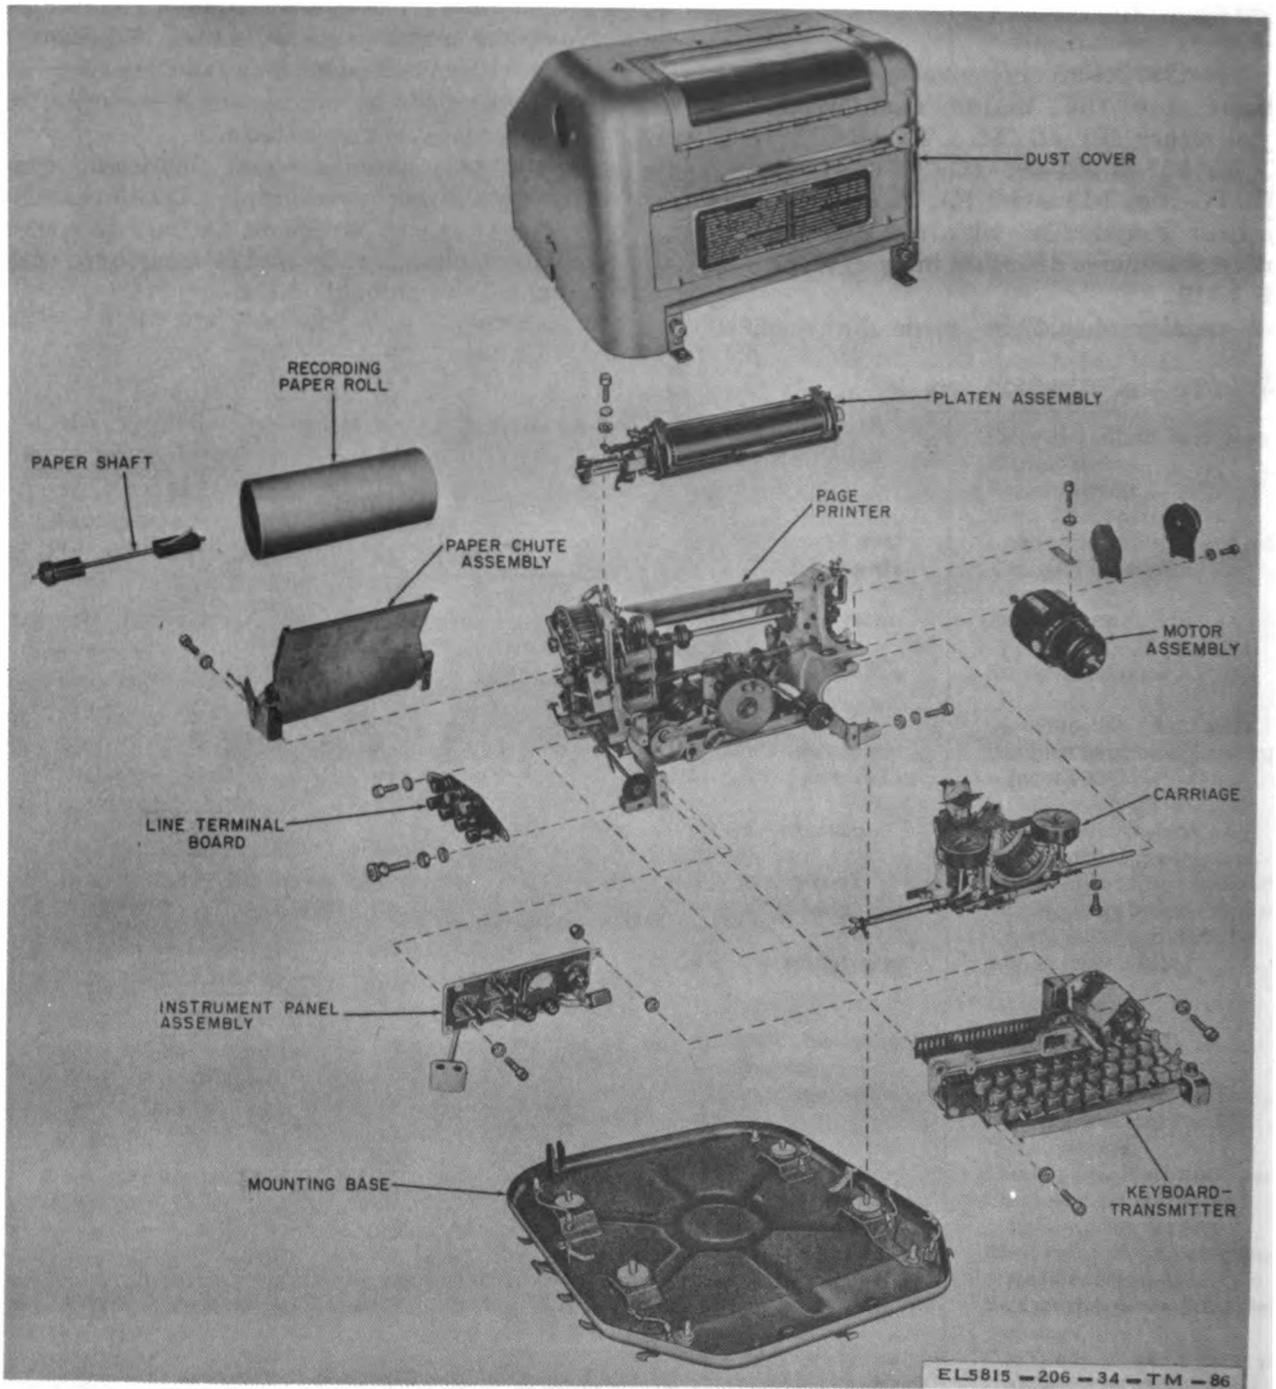

Figure 3-13. Components of Teletypewriter TT-4 (*)/TG, except for motor, TT-335/TG and TT-537/G, and A1 Terminal Box Assembly TT-698 (*)/TG.
a. This section describes removal and replacement procedures for the major components of teletypewriters TT-4B/TG, TT-4C/TG, TT-335/TG, TT-537/G, TT-698/TG, TT-698A/TG, TT-698B/TG, (fig. 3-13 and 3-15). These procedures are used in conjunction with disassembly and reassembly procedures described in paragraphs 3-33 through 3-113.
(fig. 3-13)